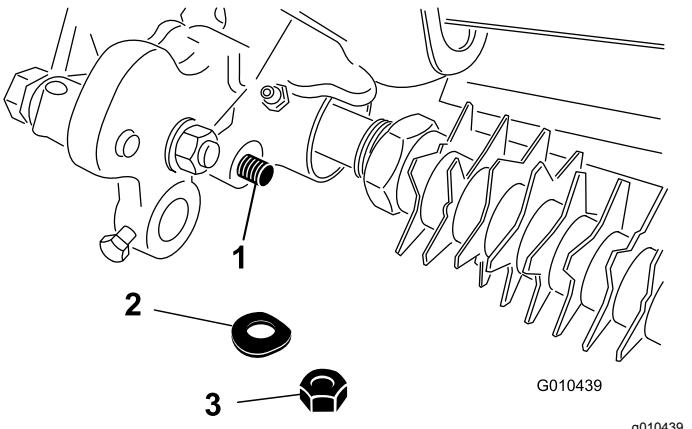

Figure 28
3. Remove the locknut and Belleville washer securing the height-of-cut arm assembly rod end to the groomer drive assembly (Figure 28).